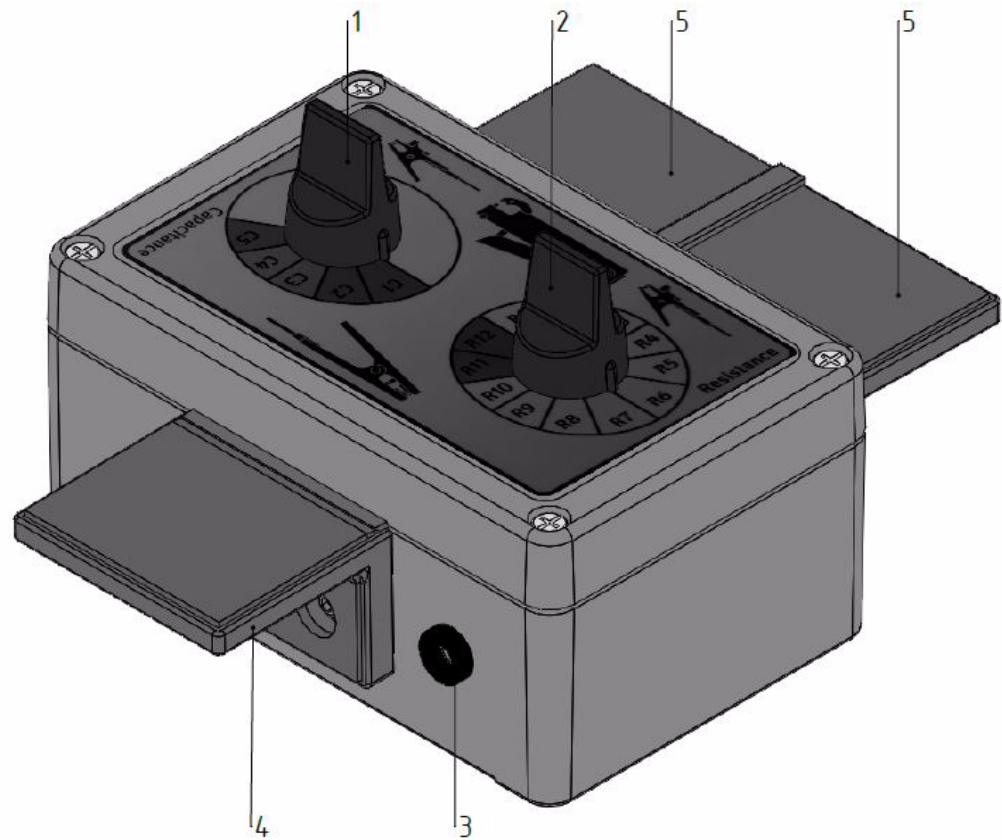

Fig. 1:
- The test lead (functional earth) must be securely connected to earth / ground using the crocodile clip and to the socket (Fig. 1, Pos. 3) of the TERRA-TU.